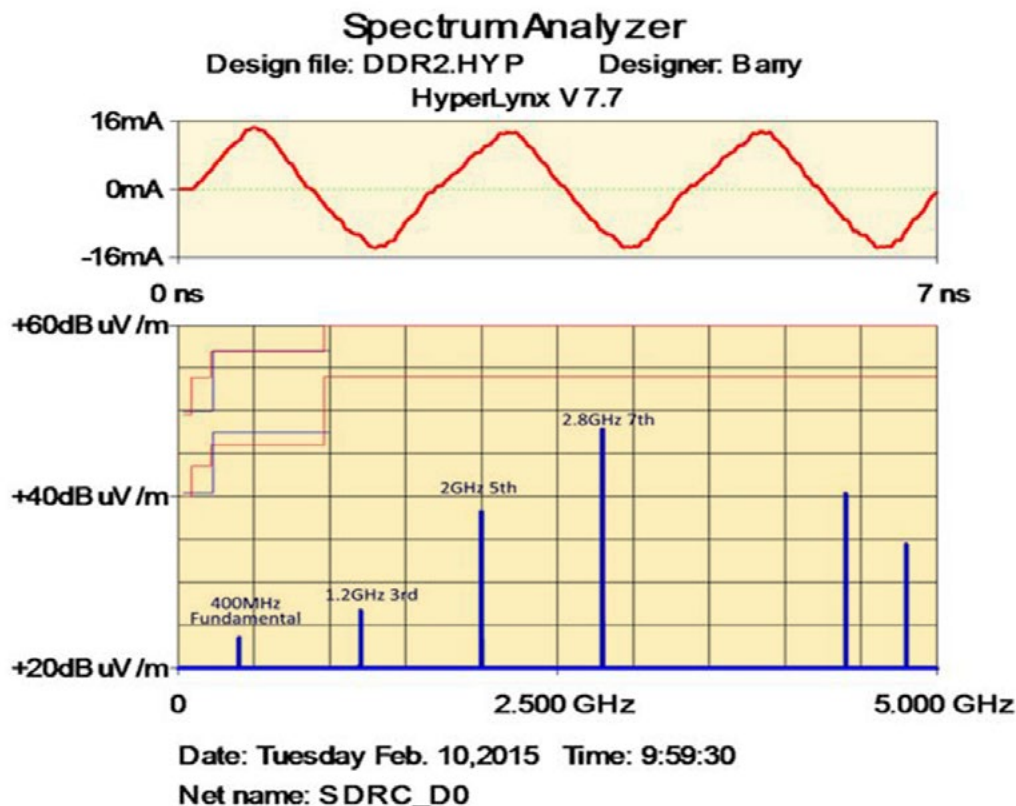

Figure 3: EM radiation from a DDR2 data signal @ 400MHz.
Figure 3 illustrates the typical electromagnetic (EM) radiation spectrum analyzer plot for a 400MHz DDR2 data signal. The fundamental frequency generally has little radiation, but then increases up to the 5th harmonic and re-